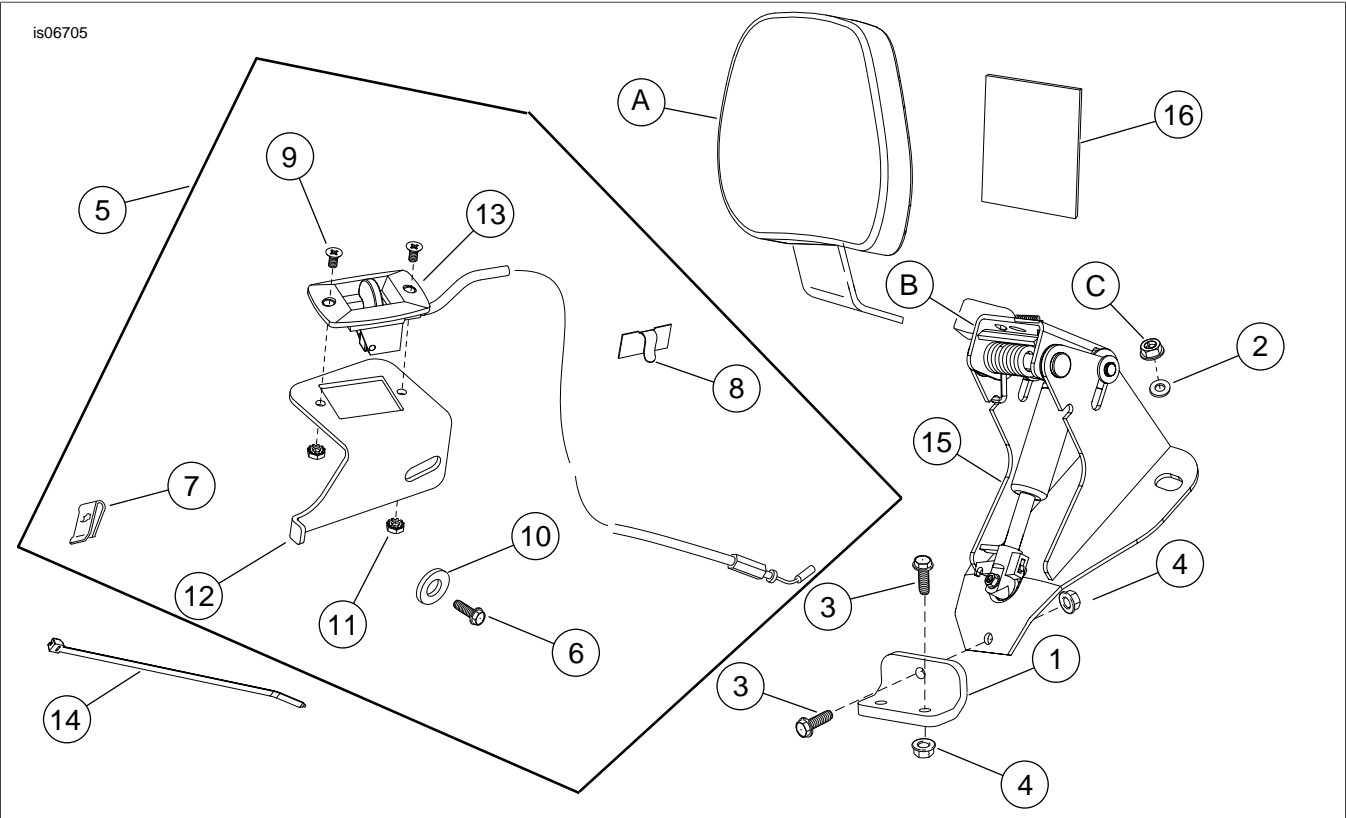

Figure 13. Service Parts: FL Adjustable Rider Backrest Mounting Hardware Kit
See Figure 13 and Table 1.
6. See Figure 13. Install actuator handle (13) with cable to actuator handle bracket (12) so the cable is pointing down when installed. Secure with screws (9) and nuts (11).
9. See Figure 13. Install wire guide (8) onto the bracket. Route the spark plug wire through the clip. Fold clip to secure the spark plug wire.
4. See Figure 13. Obtain seat protector (16).